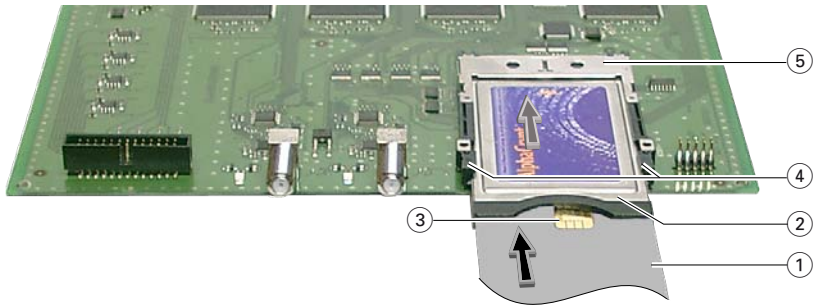

Fig. 1
- Insert the smart card (1) into the CA module (2) so that the chip (3) on the smart card faces the thicker side (top) of the CA module (fig. 1).
- Push the CA module (2) without canting into the guide rails (4) of the common interface slot (5) according to the following picture and contact it to the common interface.